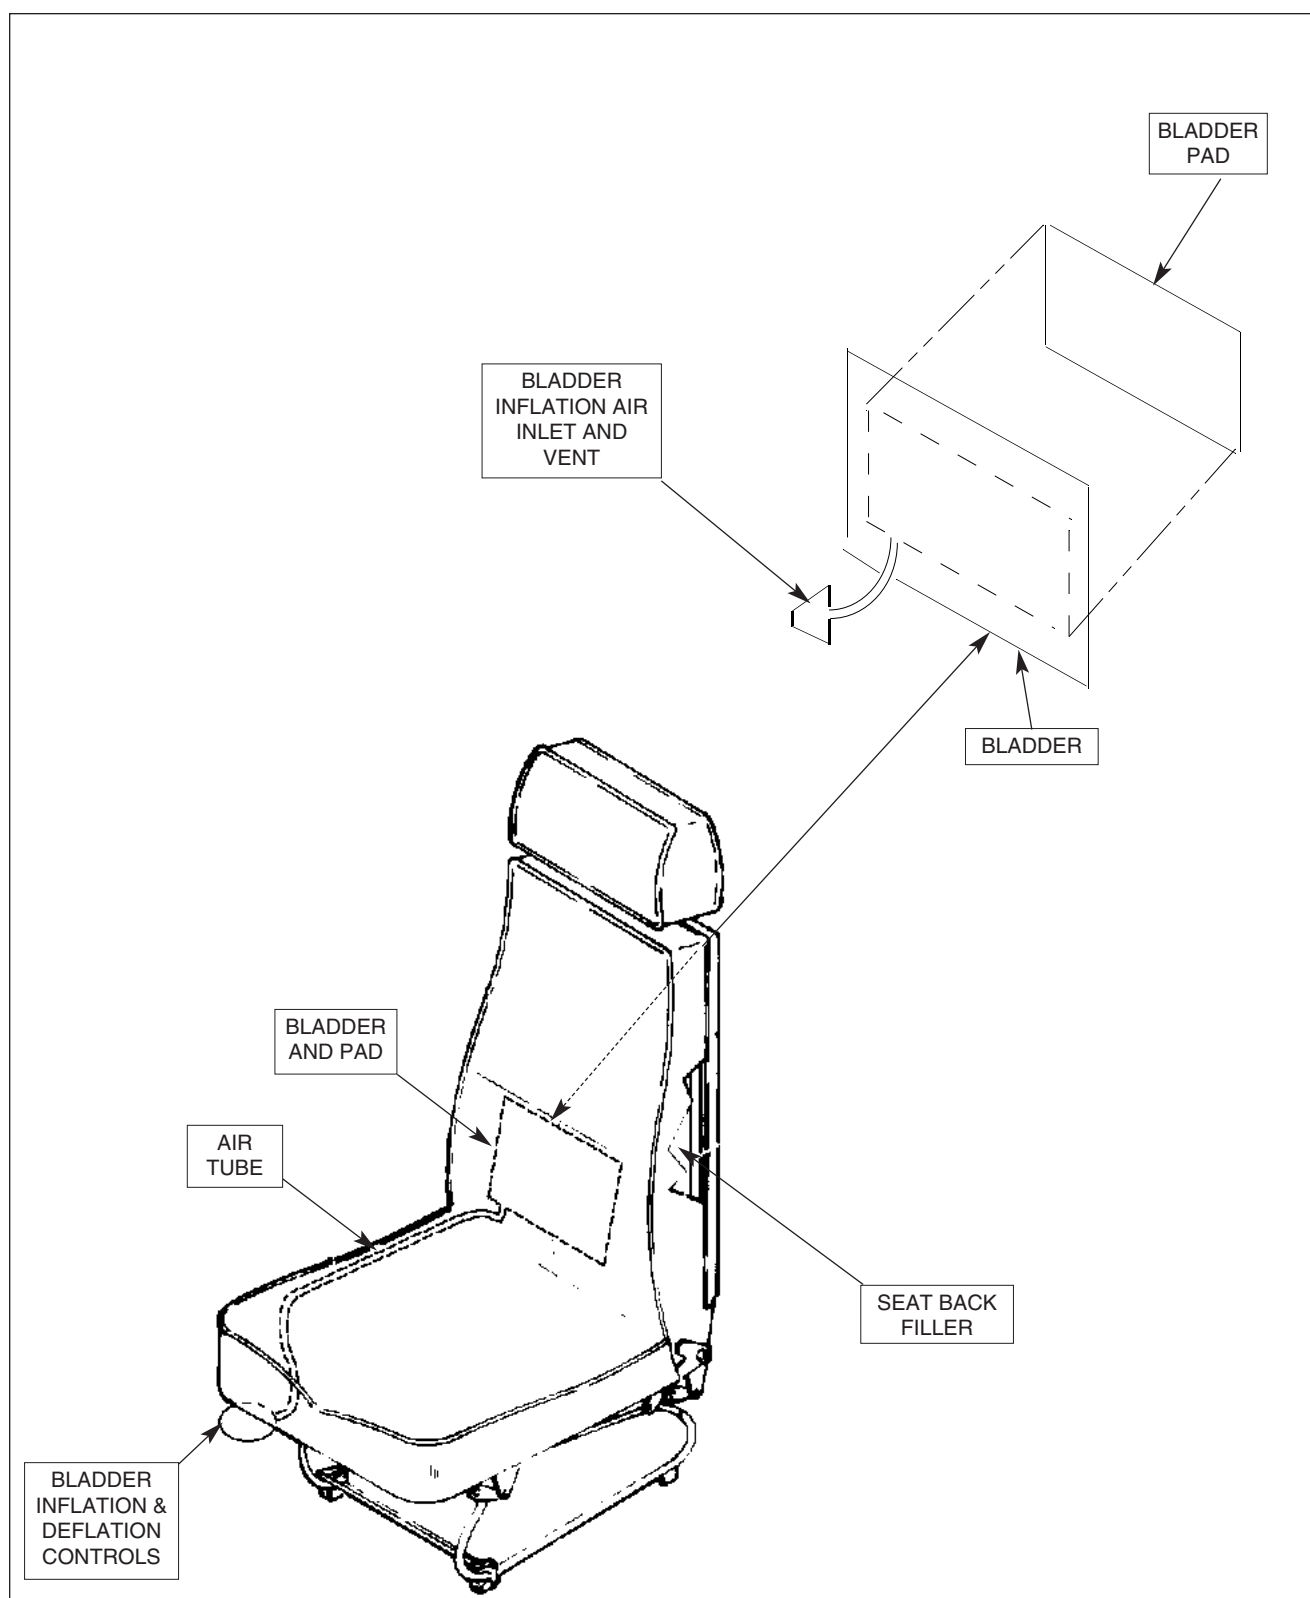

Figure 4-10b. Lumbar Seat Bladder Installation
4.54c. LUMBAR SEATS (Refer to Figure 4-10b.)